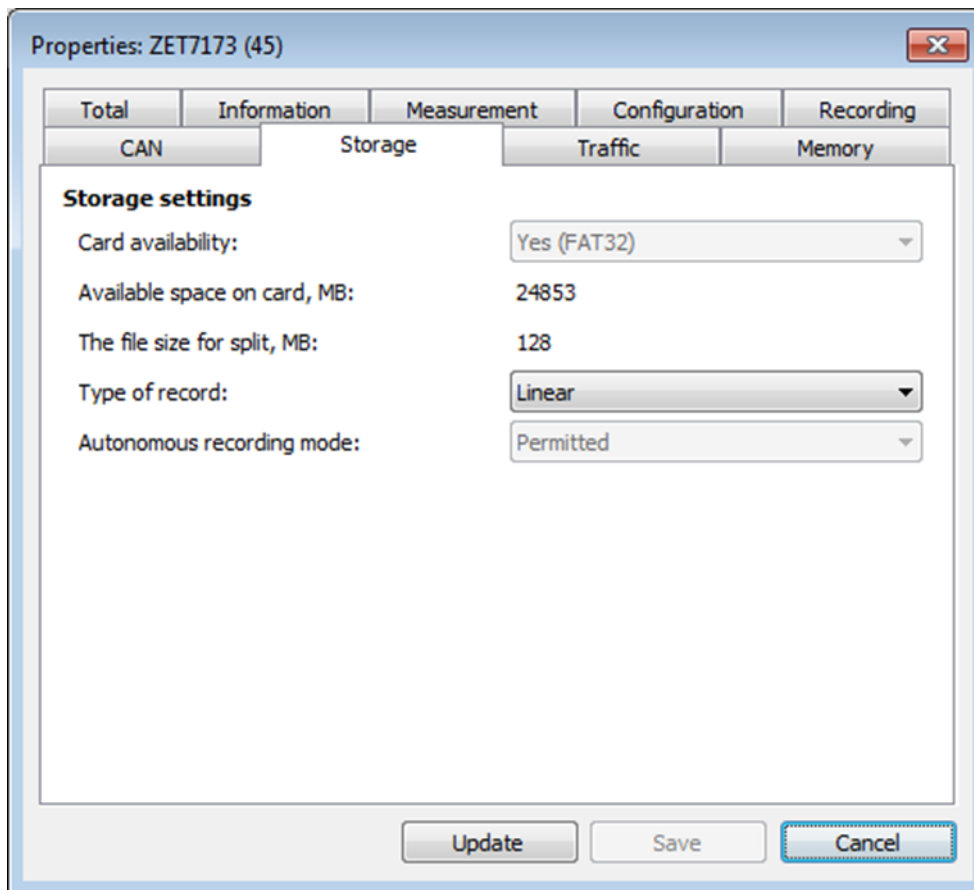

Figure 2.13 ZET 7173: “Storage” tab
- select “Linear” property in the field “Type of record” of “Storage” tab (Figure 2.13)